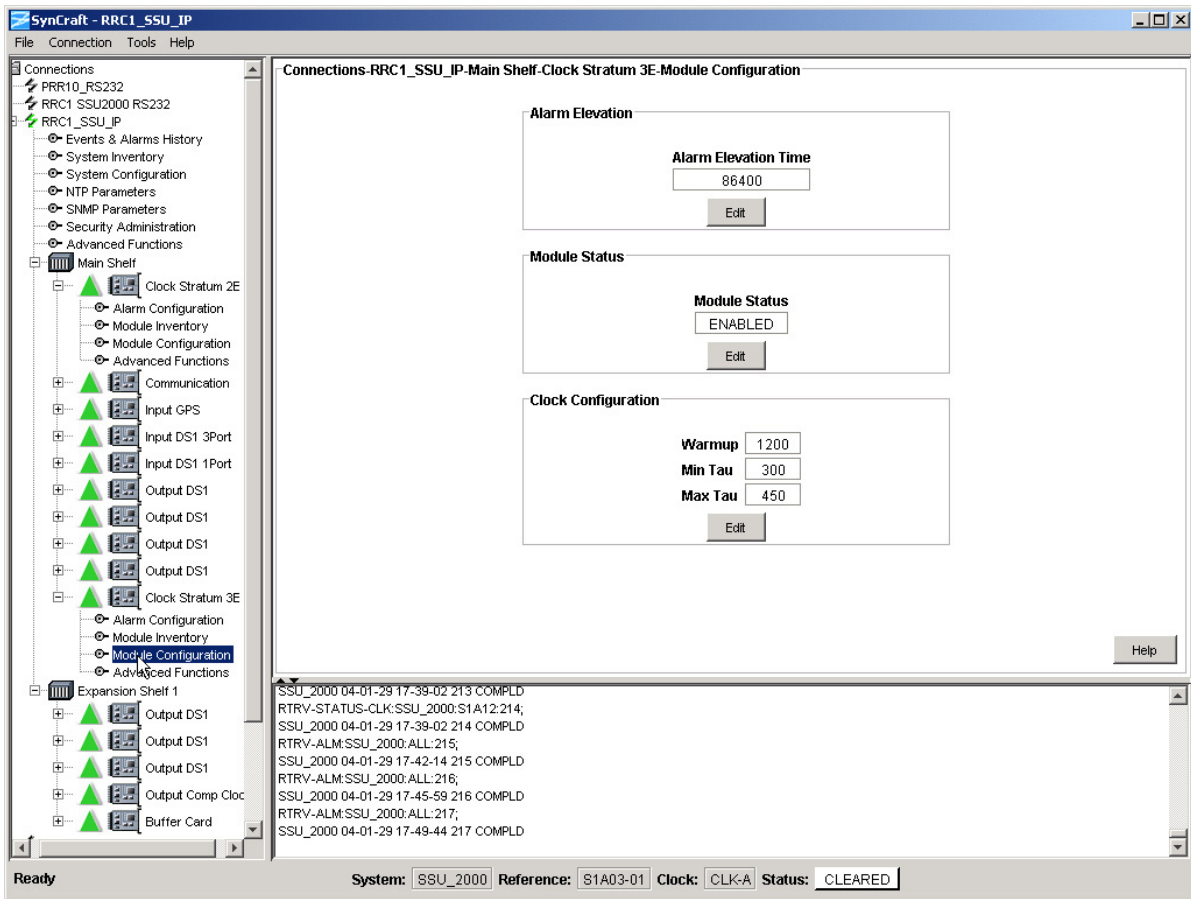

Figure H-12. Secondary Clock Module Configuration Screen
10. Select the Main Shelf and then select the secondary Clock module in the menu. Expand the Clock module and select Module Configuration. A display similar to that in Figure H-12 appears.